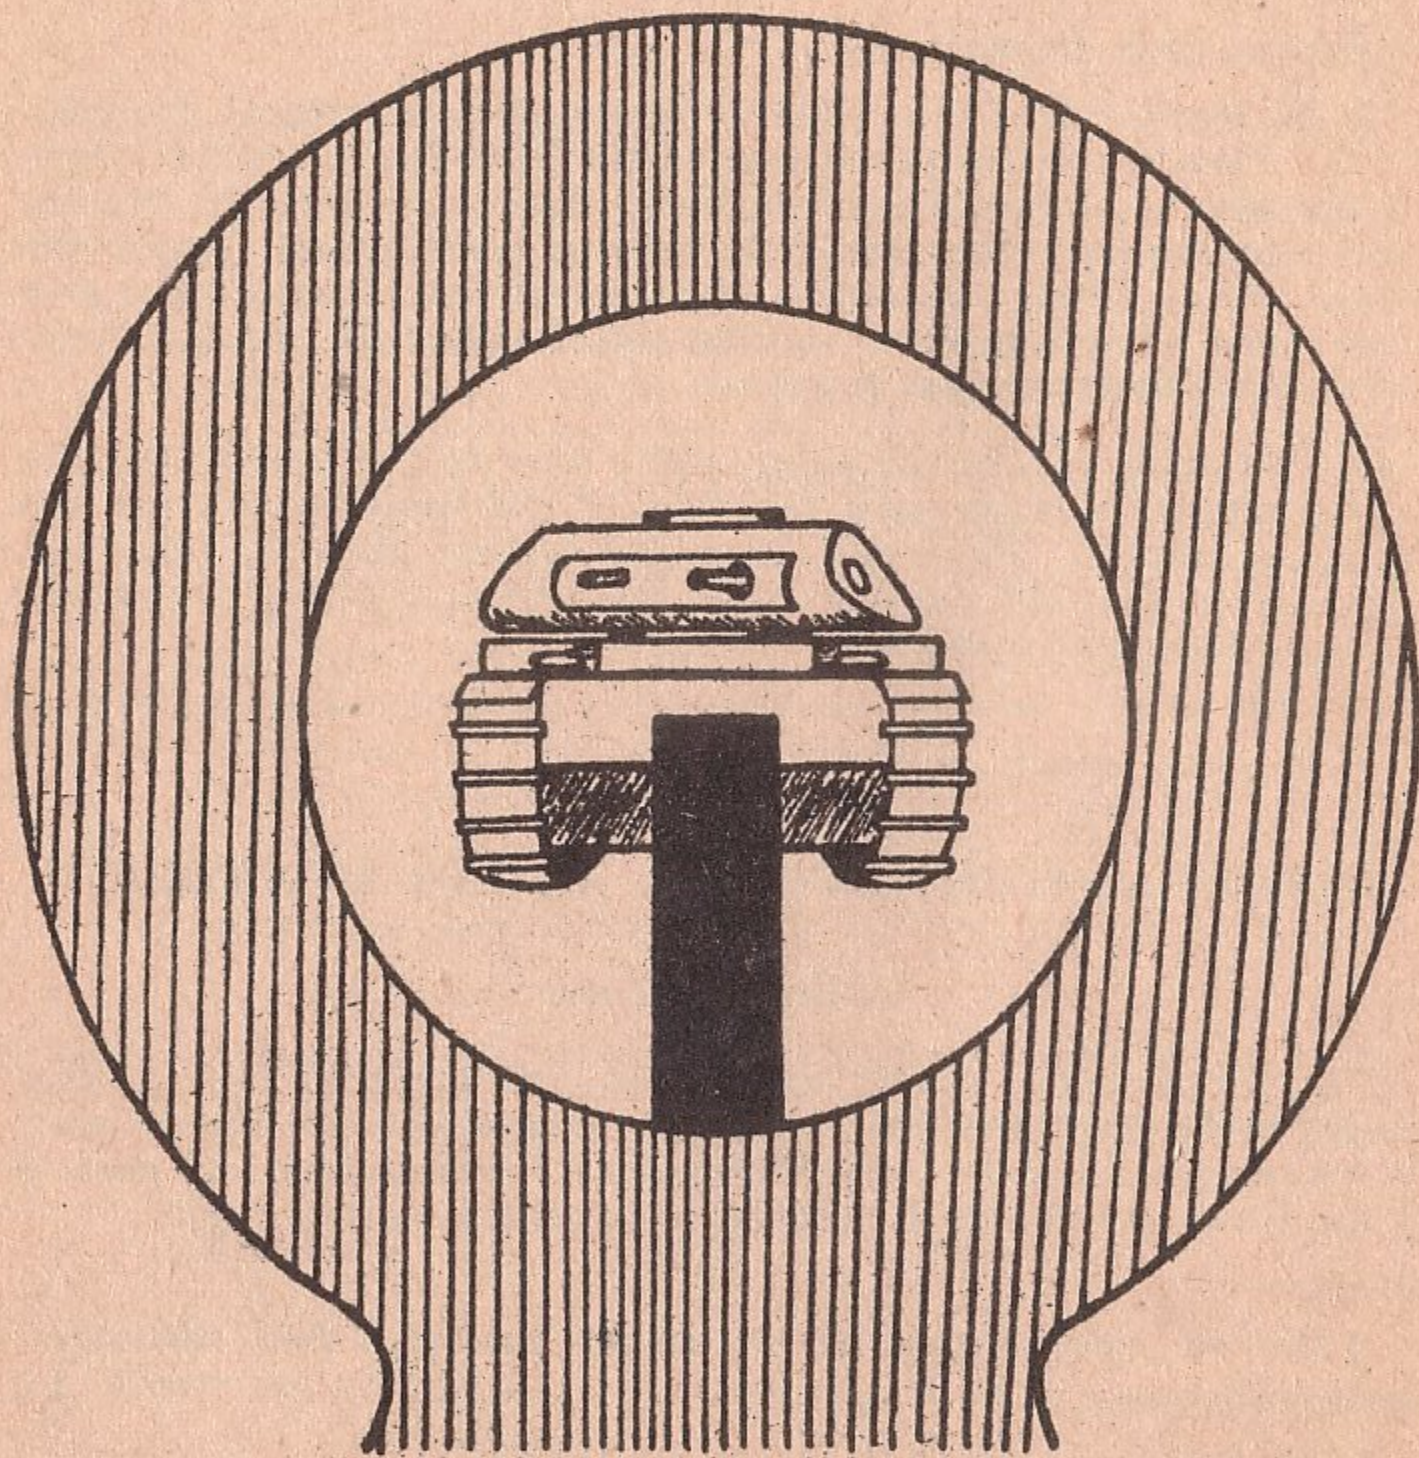

Fig. 4. Correct aim approaching tank.
Explain, using diagrams, that the method, of aiming is the same as that employed with the L.M.G. (see Fig. 4), but that with the anti-tank rifle the targets will normally be moving. The following rules will be applied when firing at A.F.Vs.:—
- i. When stationary, approaching, or retiring, aim at the centre (see Fig. 4).